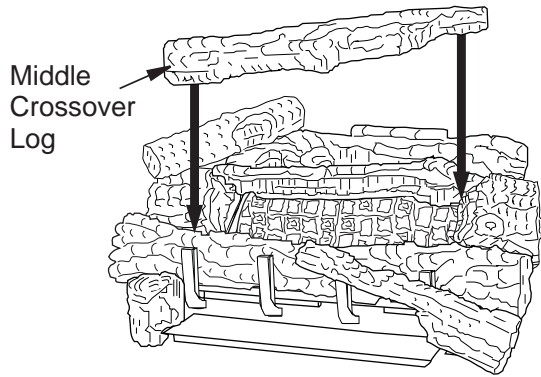

Figure 37 - Installing Middle Crossover Log
11. Rest the middle crossover log (18" D-070, 24" & 30" D-044) onto the right middle log and the left front log (see **Figure 37**). Make sure to match the projection on the bottom of the crossover log with the recess area in the right middle log and the left front log.